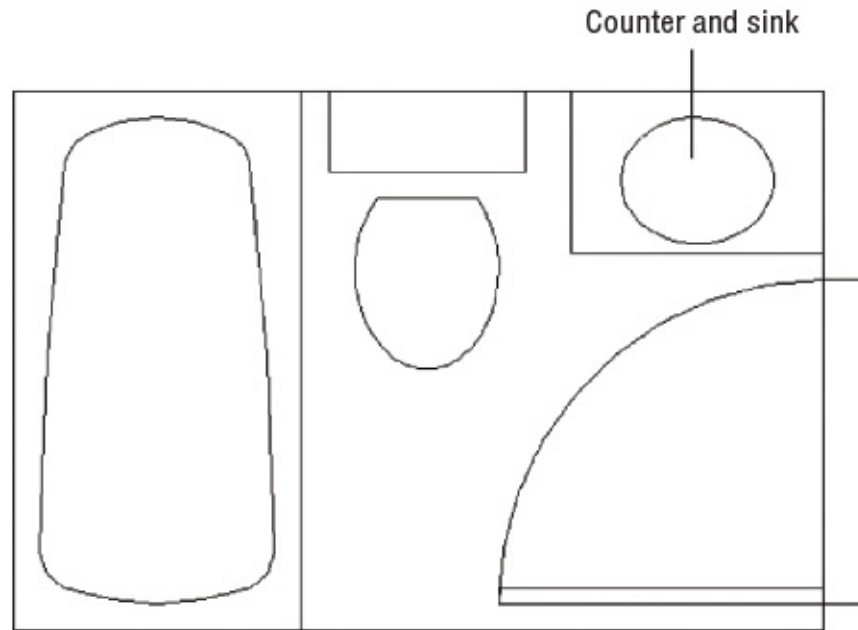

FIGURE 5.7 The bathroom with sink and counter added
9. Place the sink roughly in the upper-right corner of the bathroom plan, and then use the Move command to place it accurately in the corner, as shown in Figure 5.7.